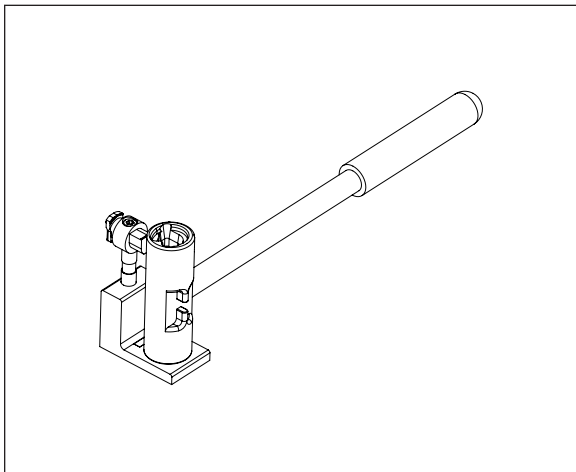
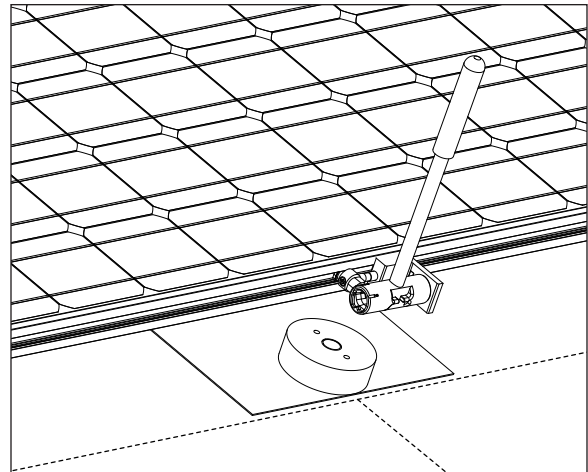

Figure 5.7A
Figure 5.7B
1. With two installers, one above and one below the Module pair, load a Leveling Foot into the Zep Tool (Figure 5.7A). Use the array perimeter marking and the rafter chalk line to identify where to place the Module and Leveling Foot according to the system design. Both installers should then simultaneously insert their Leveling Foot into the bottom and top of the Module groove, key first (See Figure 3.0B), at the 3 o'clock position (Figure 5.7B).